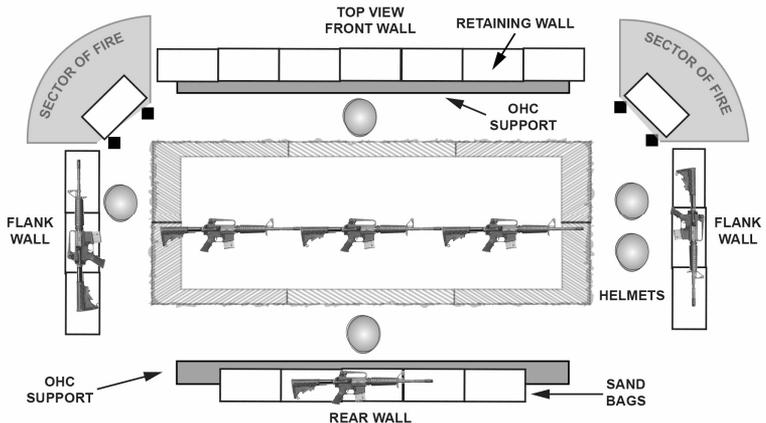

Figure 071-COM-4408-4
- (2). Construct stage 2 of a two-man fighting position. (Figure 071-COM-4408-4).